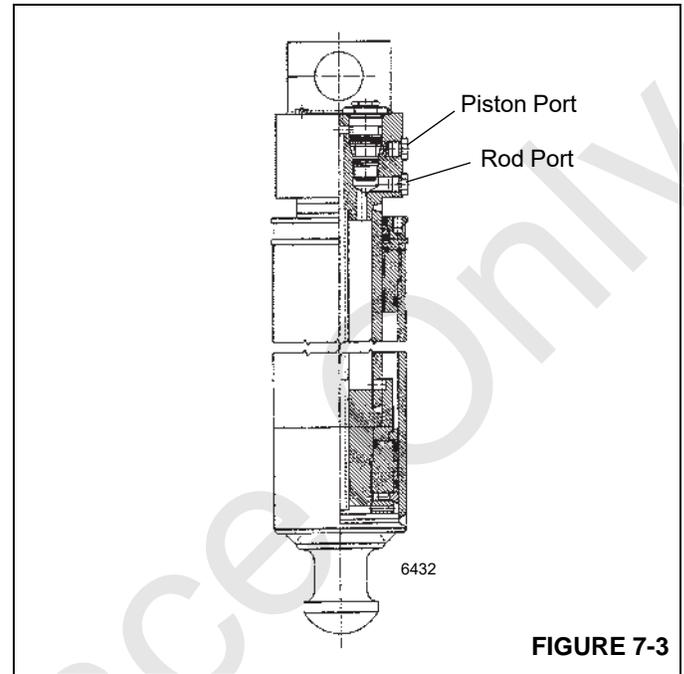

FIGURE 7-3
2. Remove the rod side cylinder hose from the suspected leaking jack cylinder (see Figure 7-3). Oil will flow until the cavity in the cylinder port block empties. After the port block cavity empties, oil should stop flowing from the rod side port.
- Remove the piston side cylinder hose from the suspected leaking jack cylinder (see Figure 7-3). Oil will flow until the cavity in the cylinder port block empties. After the port block cavity empties, oil should stop flowing from the piston side port.